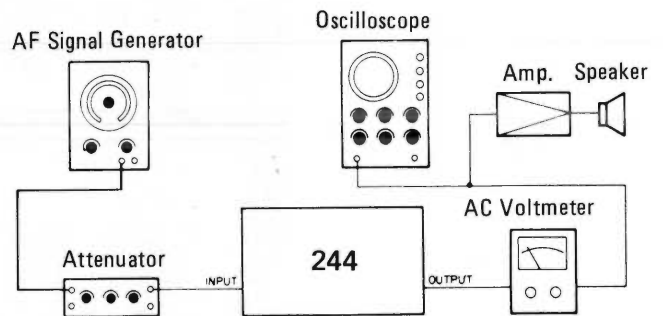

Fig. 4-6-3
- 1) Connect the test equipments as shown in Fig. 4-6-3.
- 1) Connect test equipments as shown in Fig. 4-6-3, and adjust PGM MASTER fader on the front panel so that -10 dBV is obtained at the PGM OUT jack as mentioned in the item 4-5-2 (steps 1 and 2).
- 1) Connect the test equipments as shown in Fig. 4-6-3 and adjust PGM MASTER fader so that -10 dBV is obtained at the PGM OUT jack as mentioned under the item 4-5-2 (steps 1 and 2).